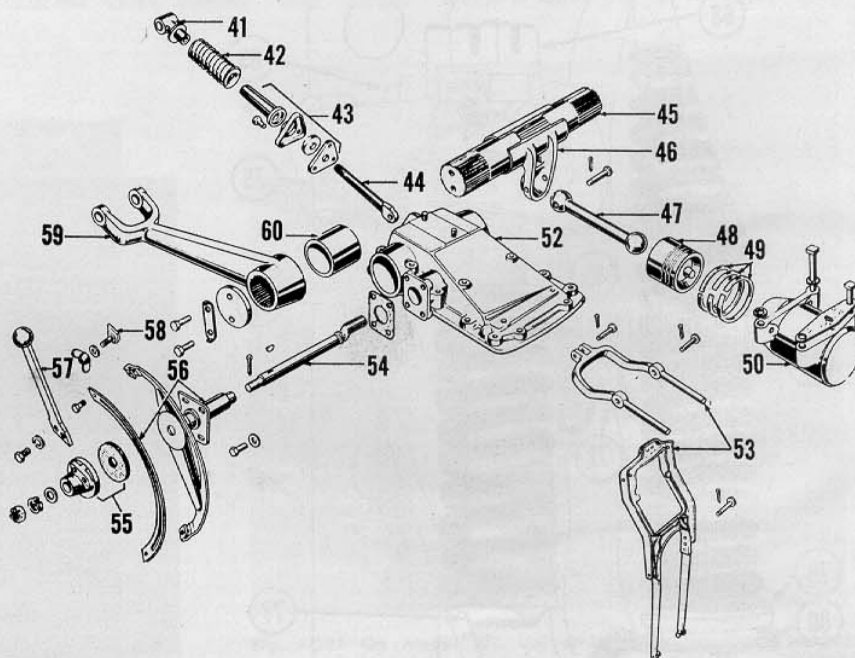

Fig. FO85—Exploded view 2N-9N hydraulic lift cover assembly.
106. DISASSEMBLE AND OVERHAUL. Procedure for disassembly of the lift cover assembly is self evident by an examination of the unit and reference to Fig. FO85. The general order of disassembly is the ram cylinder (50), control spring (42) lift control fork and spring control fork (53). Remove cap screws retaining one lift arm (59) to lift shaft (45); then bump end of lift shaft which will remove lift shaft ram arm (46) and one lift shaft bushing (60). Push other bushing from housing. Remove hand control quadrant (56) and attached parts.